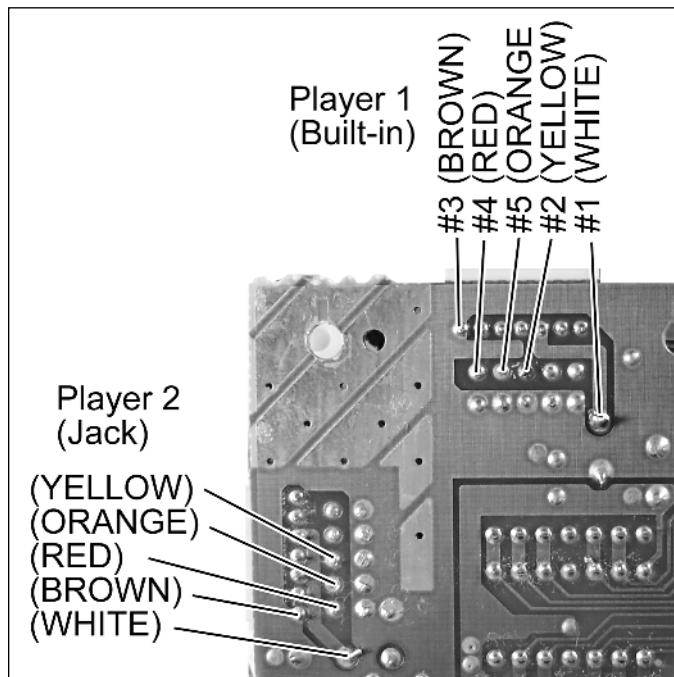

FIGURE 7-30: Reconnecting controllers.
1. Take the five-strand of cable that's attached to the IC on the left PC board. We made a black mark on one of the wires — this is #1 and the opposite side wire is #5. Connect them to the spots indicated in Figure 7-30.